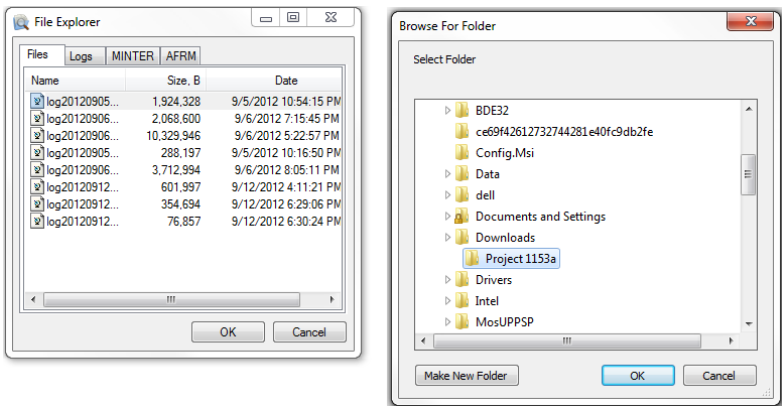

Figure 5-2. Download a File
- To save a highlighted file into the computer, right-click and select **Download** from the pop-up menu. In the **Save As** dialog box navigate to or create a folder in which to download and store file (Figure 5-2).